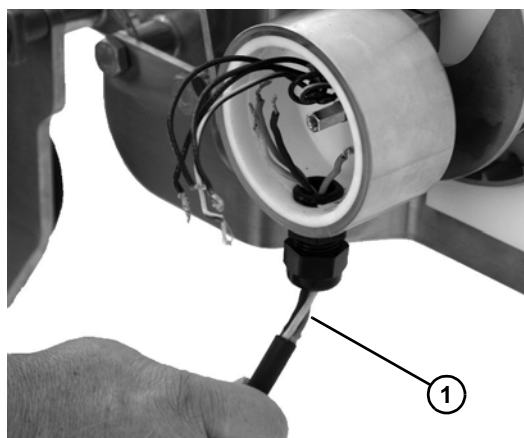

Figure 18
4. Remove cord (Figure 18, item 1) from cord grip.